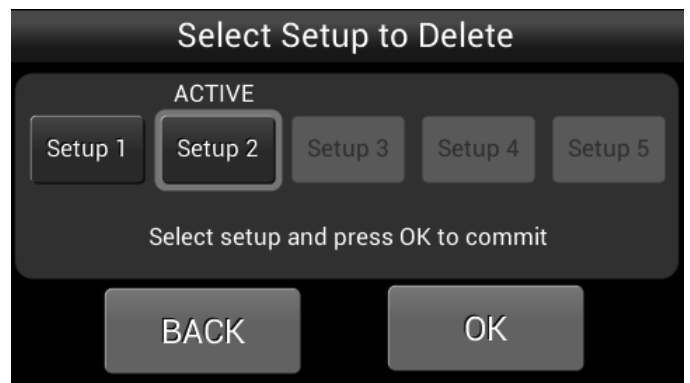

Figure 35 - DELETE SETUP SCREEN
3. To delete a Saved Setup, tap the display screen, select the Menu button on the control bar. Select the Setup button on the Main Menu and enter the 6150 Access Code. Review the information on the Setup Information screen and press OK, then select the Delete Setup button on the Setup Menu Options screen. Select a numbered Setup and OK on the **Select Setup to Delete** screen (Figure 35). After deletion, the screen will temporarily display a Setup Deleted message before reverting to the updated